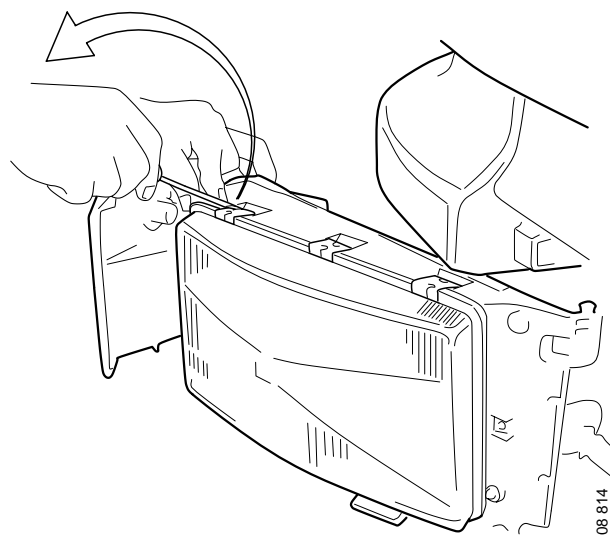

Fig. 1
5. Remove the 7 clips securing the headlamp lens. Use a screwdriver, see Fig. 1.